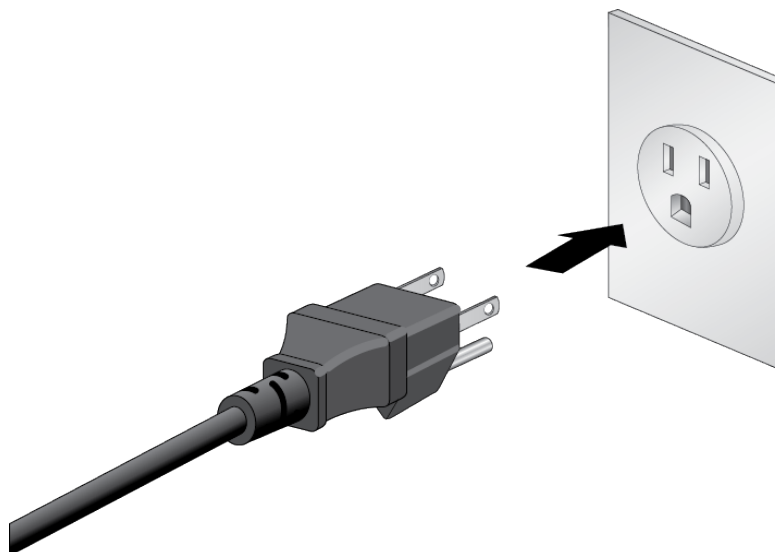

Figure 122. Connecting the Power Cord to an AC Power Source
3. Connect the power cord to an appropriate AC power source. Refer to Figure 122.